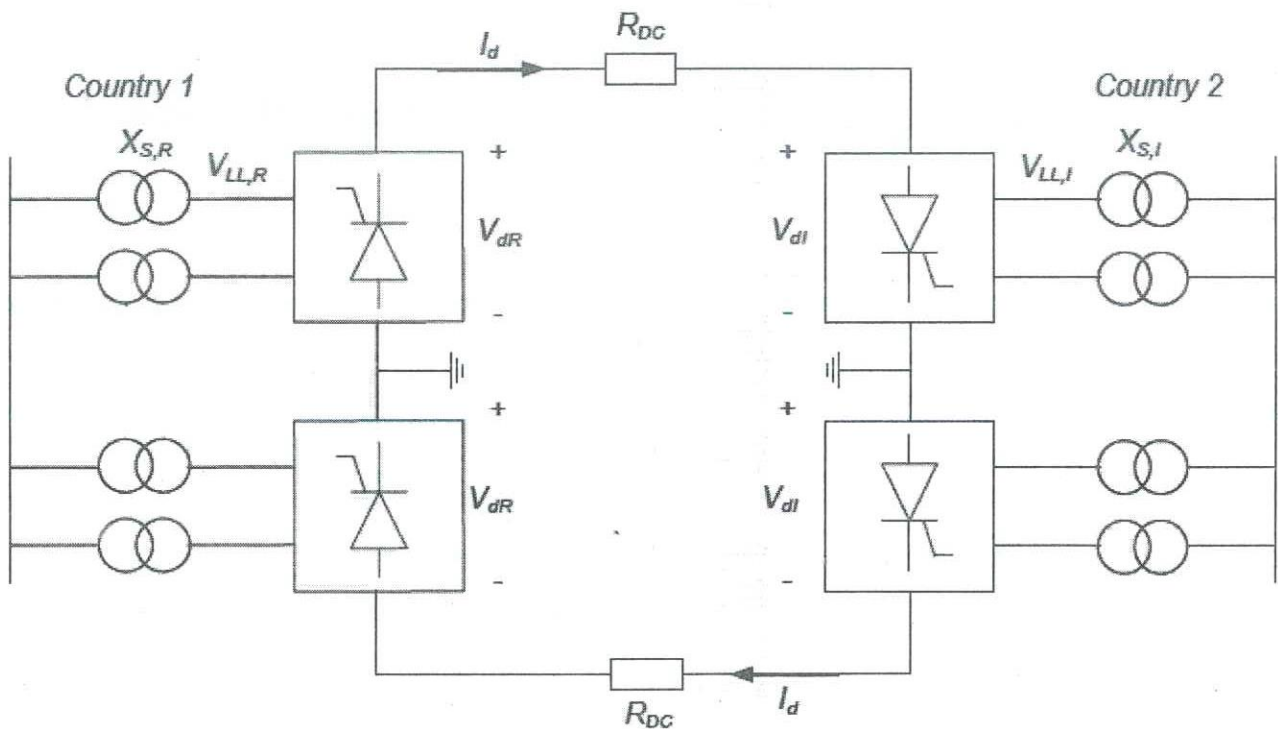

Figure Q2: HVDC transmission link between two countries.
- b) Figure Q2 illustrates a bipolar HVDC transmission link between two countries. Each pole in the figure is a standard 12 pulse thyristor converter. The parameter values indicated in the figure are as follows.